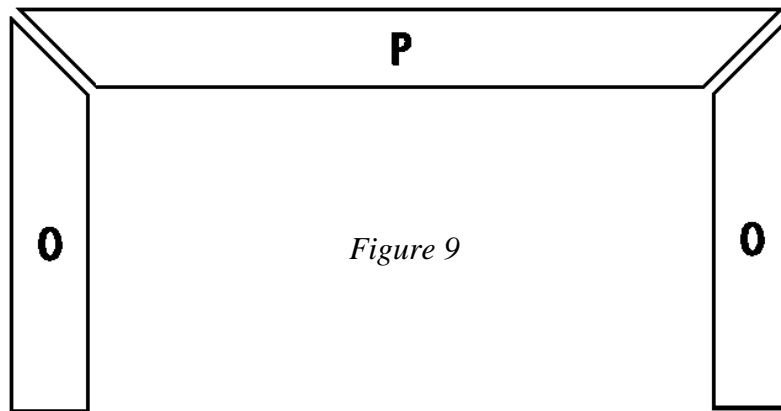

Figure 9
2. Cut two Side Base Supports (O) from 1 x 4 pine, each measuring 17-5/8 inches.
3. Miter one end of each of the base supports (O) at a 45-degree angle, as shown in *Figure 9*.
4. Cut one Front Base Support (P) from 1 x 4 pine, measuring 35-1/4 inches. Miter the ends of the Front Base Support (P) at opposing 45-degree angles, as shown in *Figure 9*.